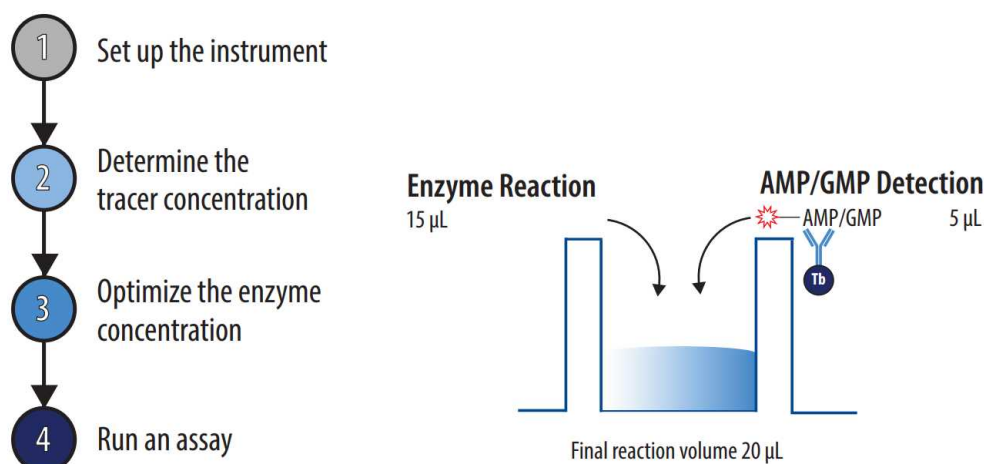

Figure 2. An outline of the procedure. The assay consists of 4 main steps with a mix-and-read format.
- 4 The Transcreener® AMP²/GMP² TR-FRET Red Assay protocol consists of 4 steps (**Figure 2**). The protocol was developed for a 384-well format, using a 15 µL enzyme reaction and 20 µL final volume at the time that the plates are read. The use of different densities or reaction volumes will require changes in reagent quantities.